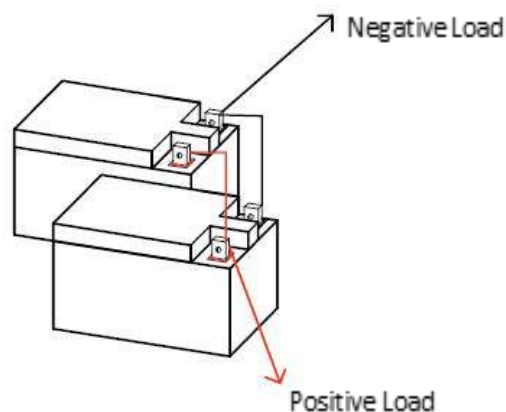

Figure 3: Two BB5024 Batteries connected in Parallel to create a 24V 100Ah Battery Bank
Multiple BB5024 batteries may be connected in parallel to increase the capacity and current of the system. When batteries are connected in parallel, the voltage of the system does not change, but the capacity and current limits are additive. For example, two BB5024 batteries connected in parallel (shown in Fig. 3) create a 24V 100Ah bank that can deliver 120A continuously and 200A for 30 seconds.
7. Repeat steps 3-6 for additional batteries in the system. An example of a finished connection can be found below in Fig. 3